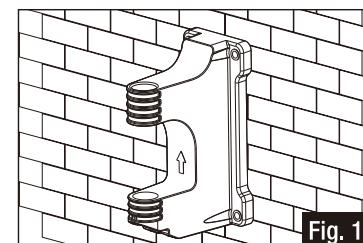

Fig. 1
2. Use the wall mount bracket to mark the four hole positions on the wall using a carpenter's pencil (Fig. 1).